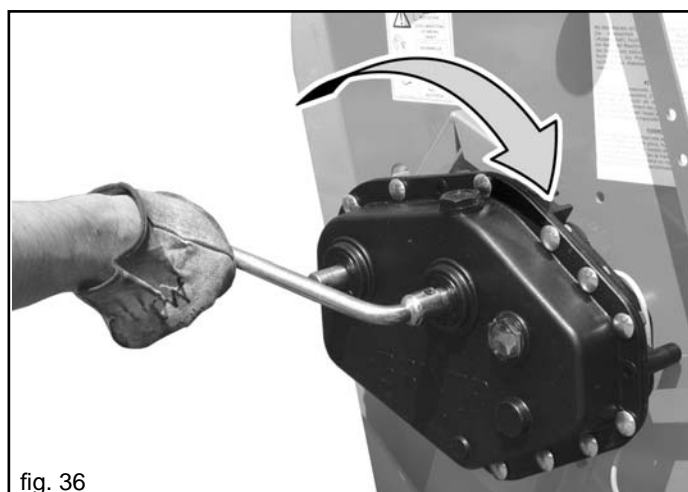

fig. 36
- 4) Insert the crank (Fig. 36) on the gearbox shaft and rotate clockwise.